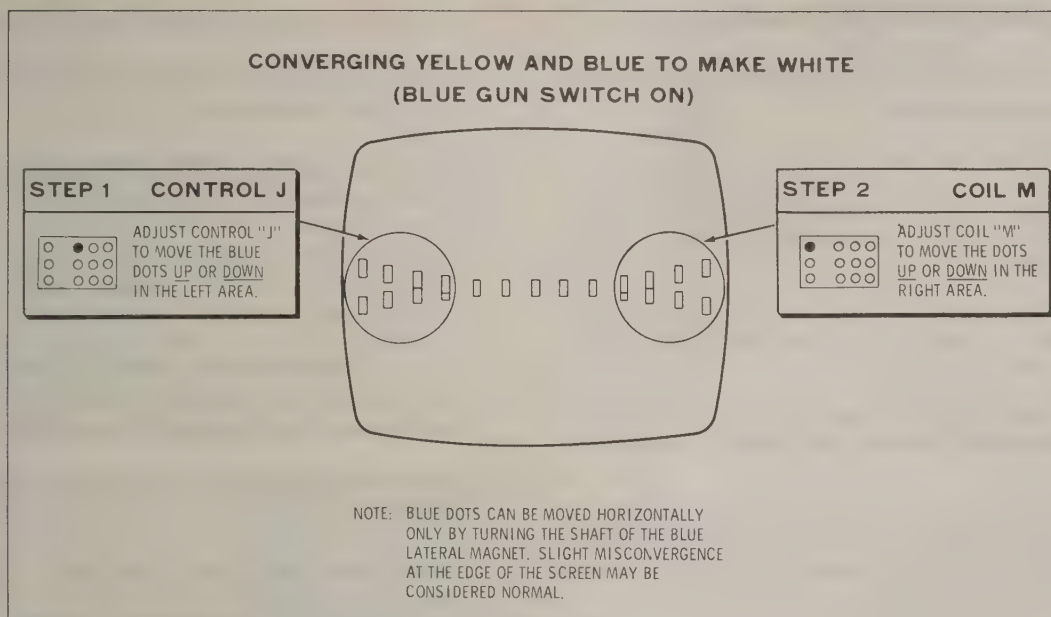

Figure 1-26
Perform the steps in Figure 1-26 to merge the blue dots with the yellow dots in the right and left areas. See Photo M.
- () Check all the dots in the center horizontal row to make sure they are all white. If the blue dots at the center of the screen are not properly converged, readjust the blue static convergence magnet and the blue lateral magnet; then repeat the steps in Figure 1-26.